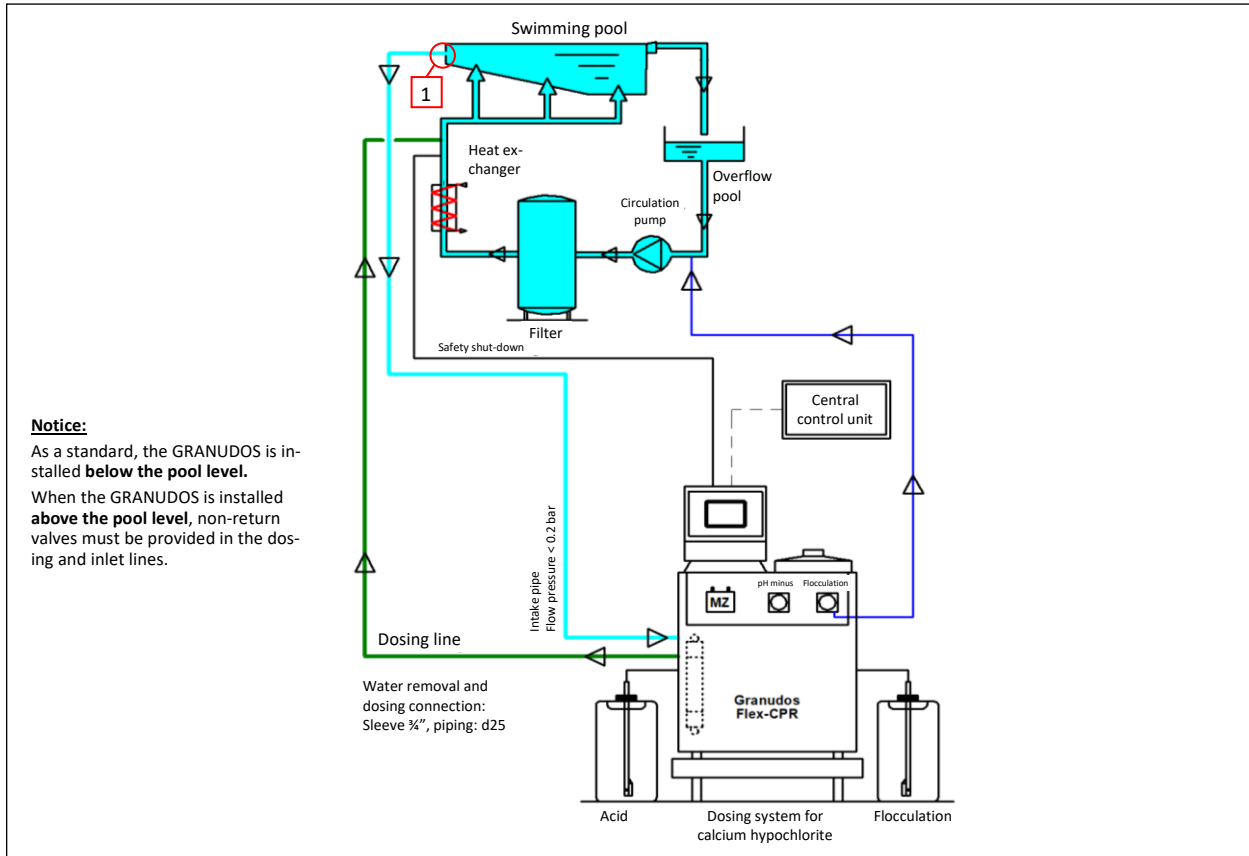

Figure 20: Flow diagram GRANUDOS Flex-CPR Touch XL without buffer tank
- Install a spring-loaded non-return valve in the dosing line to the clean water piping to prevent the flushing tub from draining when the system is turned off. (see notice in the flow diagram, *Figure 20* – corresponding non-return valves are available)